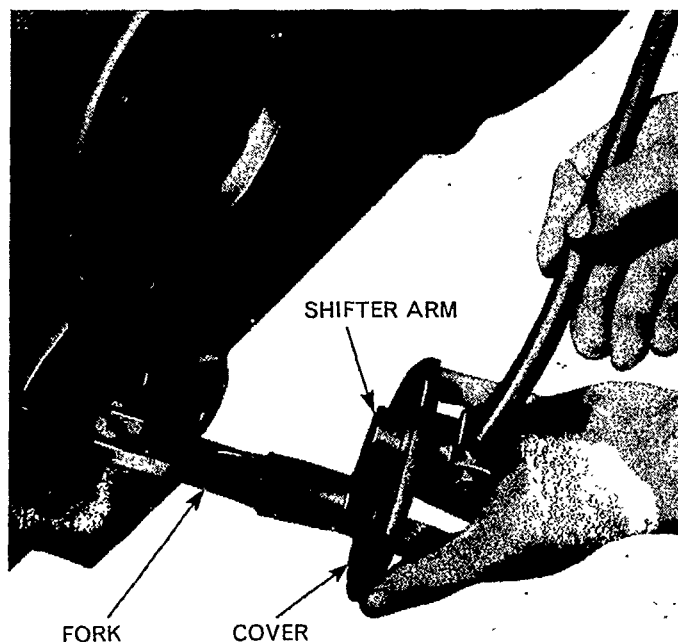

Figure 3
4. With a new gasket in position install the shifter mechanism on the rear axle centre housing, Figure 3, making sure that the fork is engaged with the sleeve (6, 7 and 8 speed transmission). On tractors equipped with a four speed transmission the shifter arm is engaged with the shifter rail connector.